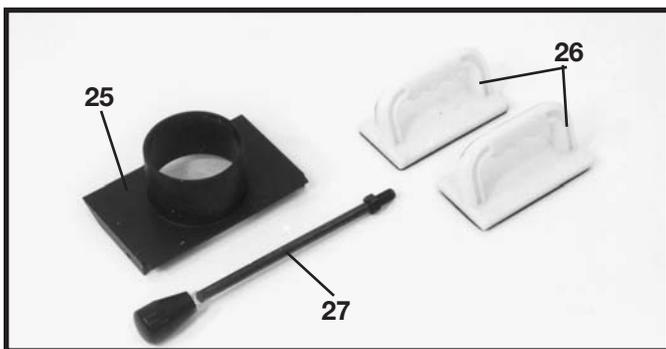
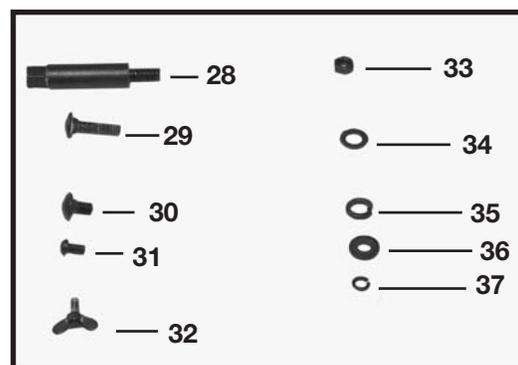

Fig. 4A
Fig. 4B
**⚠ WARNING** WARNING: JOINTER WEIGHT IS APPROXIMATELY 175 LBS. CARE MUST BE TAKEN WHEN LIFTING JOINTER ONTO STAND. A MINIMUM OF TWO PEOPLE WILL BE REQUIRED TO LIFT THE MACHINE. Your new jointer is shipped complete in one carton. Carefully unpack the jointer and all loose items. Fig. 4, Fig. 4A and Fig. 4B, illustrate the jointer and all loose items supplied with your machine. Remove the protective coating from the table surface and all unpainted parts. This coating may be removed with a soft cloth moistened with kerosene (do not use acetone, gasoline or lacquer thinner for this purpose). After cleaning cover the table surface with a good quality paste wax. Buff out the wax thoroughly to prevent it from rubbing into the workpieces.